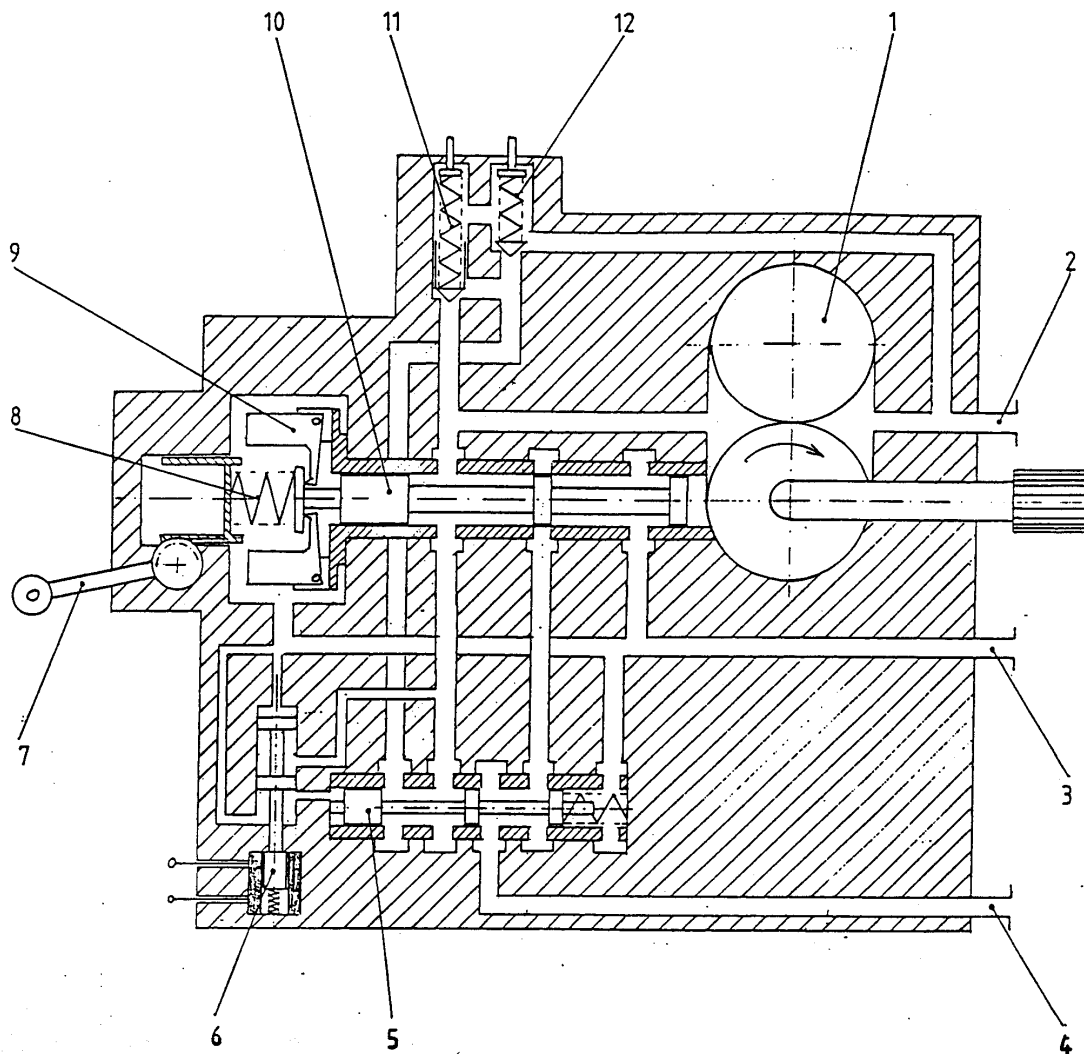

Fig. 6 Schematic diagram of governor operation
7.1.5 Place washers on the studs and mount three stop nuts and one nut for a safety wire. Install the nut for the safety wire according to fig. 6. Torque with 5 - 6 Nm (44-53 inlb).